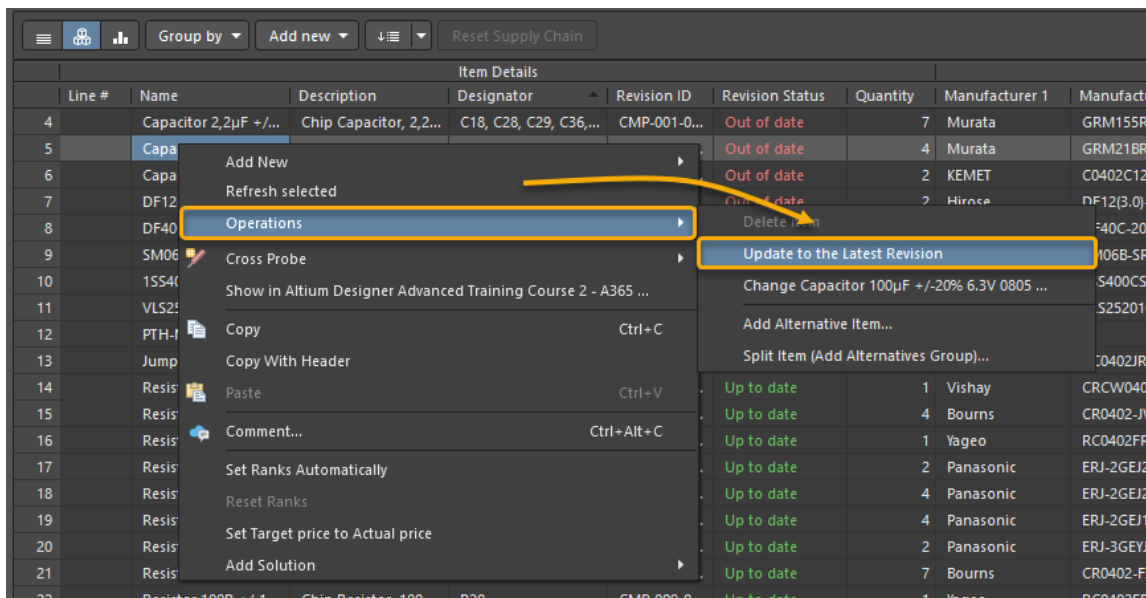

Figure 10. Components out of date - Update to latest revision
- c) **Right click** to select **Operations » Update to the Latest Revision**, as seen in Figure 10 below.